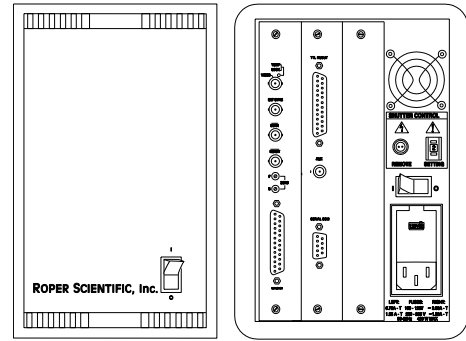

Figure 90. Power Switch Location
**POWER Switch and Indicator:** The power switch location and characteristics depend on the version of ST-133 Controller that was shipped with your system. In some versions, the power switch is located on the front panel and has an integral indicator LED that lights whenever the ST-133 is powered. In other versions, the power switch is located on the back of the ST-133 and does not include an indicator LED. Figure 90 shows the two locations.